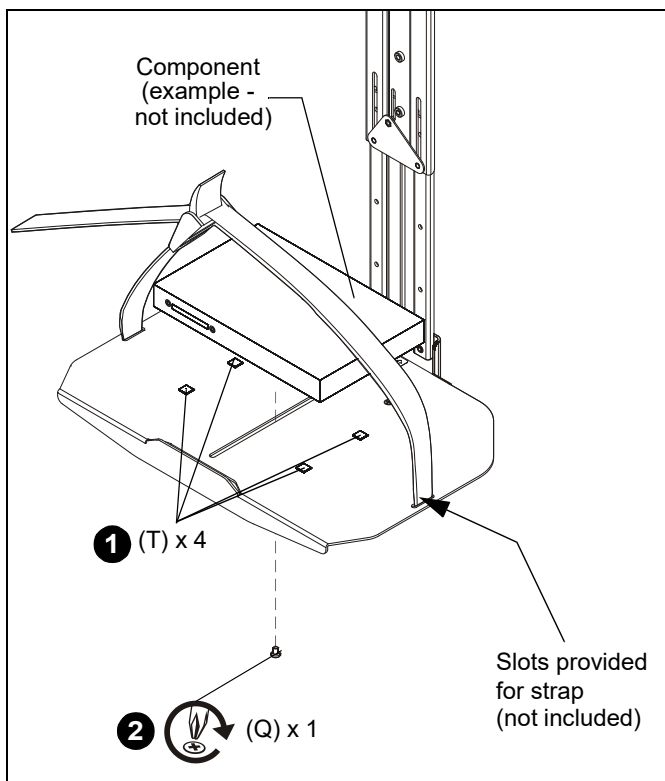

Figure 14
NOTE: OPTIONAL: Slots are provided in shelf for strap (not included) to hold components in place. (See Figure 14)
2. (Single Screw option) Install 1/4-20 x 3/8" Phillips pan machine screw (Q) through mounting slot on shelf and into hole on bottom of component (if applicable). (See Figure 14)